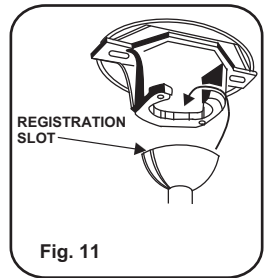

Fig. 11
Step 8. Lift the Motor Assembly and place the Hanger Ball into the Hanger Bracket. Rotate the Motor Assembly as needed until the check groove from the Hanger Ball rests firmly over the registration tab from the Hanger Bracket. Motor Assembly should not rotate if this is done correctly. (Fig. 11)
**Step 2.** If your outlet has a ground wire (Green or Bare Copper) connect the fan ground wires (on hanger ball and hanger bracket) to it; otherwise connect the fan ground wire on hanger ball directly to the hanger bracket. (Fig. 11)